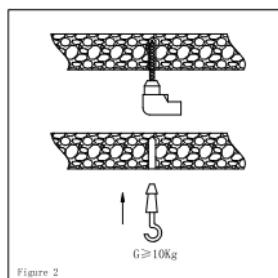

Figure 2
2. Install the hook on the roof. (Suggest the hook which is M10 and its load-bearing is more than 10Kg) (fig.2)